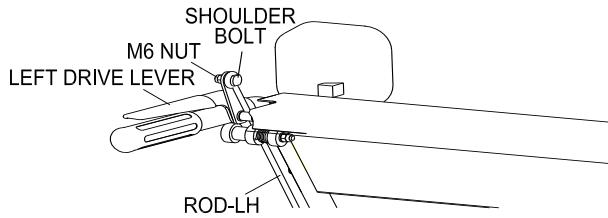

FIG 4
**2.3.2** Assemble the upper side of Rod-LH onto the left drive lever by placing the shoulder bolt through the loop and tighten into place. Ref to (FIG 4).